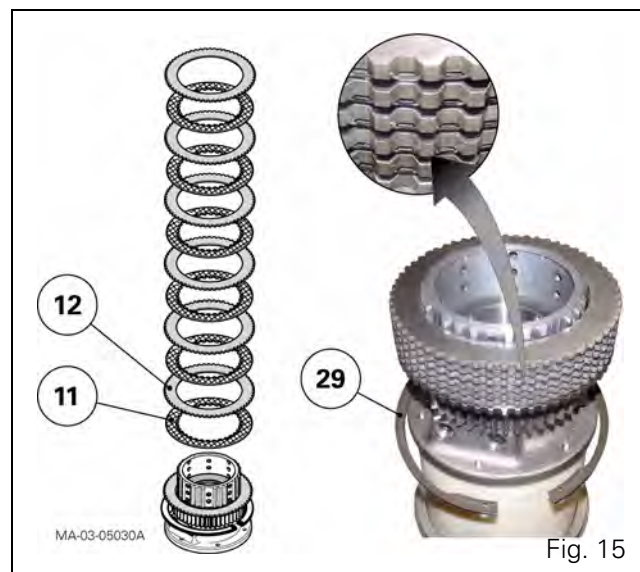

Fig. 15
57. Grease three new rings (4) and fit them on the grooves of the shaft (1).
58. If the bearings (5) and (7) have been removed (step 37), refit them in correct order on the hub (6):
- the bearing (7)
- the oil deflector (24)
- a new snap ring (25)
- the bearing (5).
59. Ensure the clutch lubricating and control ports in the bearing (57) are clean.
60. Assemble the sprocket hub (6) with the bearing (57).
61. Fit the circlip (8).
62. Position the bearing (57), sprocket hub (6) and bearings (5) (7) assembly on a fixture with a central hole to insert the shaft (1), with the hub turned upwards (Fig. 15).
63. Slide the discs (11) and thrust plates (12) onto the reverse pinion (6).
NOTE: Ensure the discs and thrust plates are stacked in the correct order (Fig. 15).
64. Align the splines of the thrust plates (12) (Fig. 15).
65. Lower the reverse shuttle unit (14) so its splines slide onto those of the thrust plates (Fig. 15).
66. Fit the circlip (29) in the groove on the unit (14).